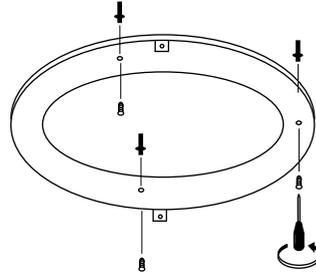

Fig 5
3. Fix the ceiling bracket using plugs and screws (Fig 5).